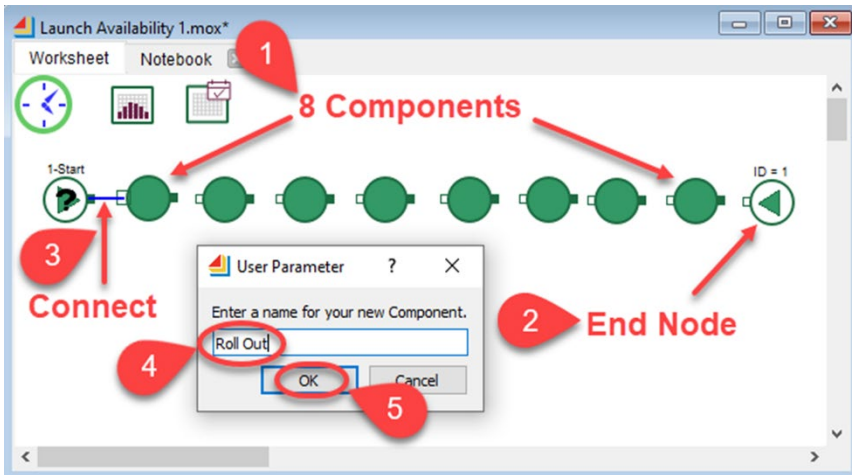

Figure 11-5: Component node placement on the model worksheet
Step 2: Add component to the worksheet as shown in *Figure 11-5*.